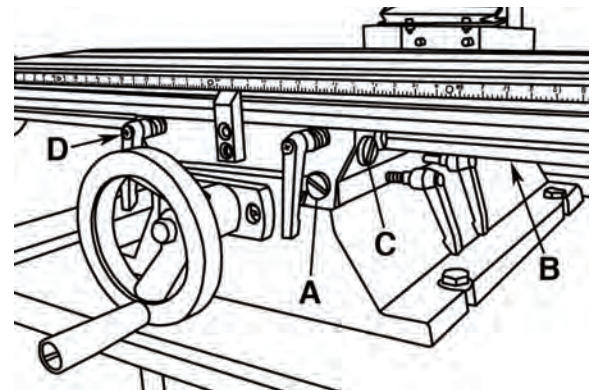

FIGURE 22
To adjust the table gibs (Fig.22):
- 2) Loosen or tighten the front and rear cross travel gib screws (A & B) Fig.22 in an alternating manner to adjust the cross travel gibs. The table should slide smoothly in the cross direction with no play or looseness. Do not overtighten the gibs or premature slide and gib wear will occur.